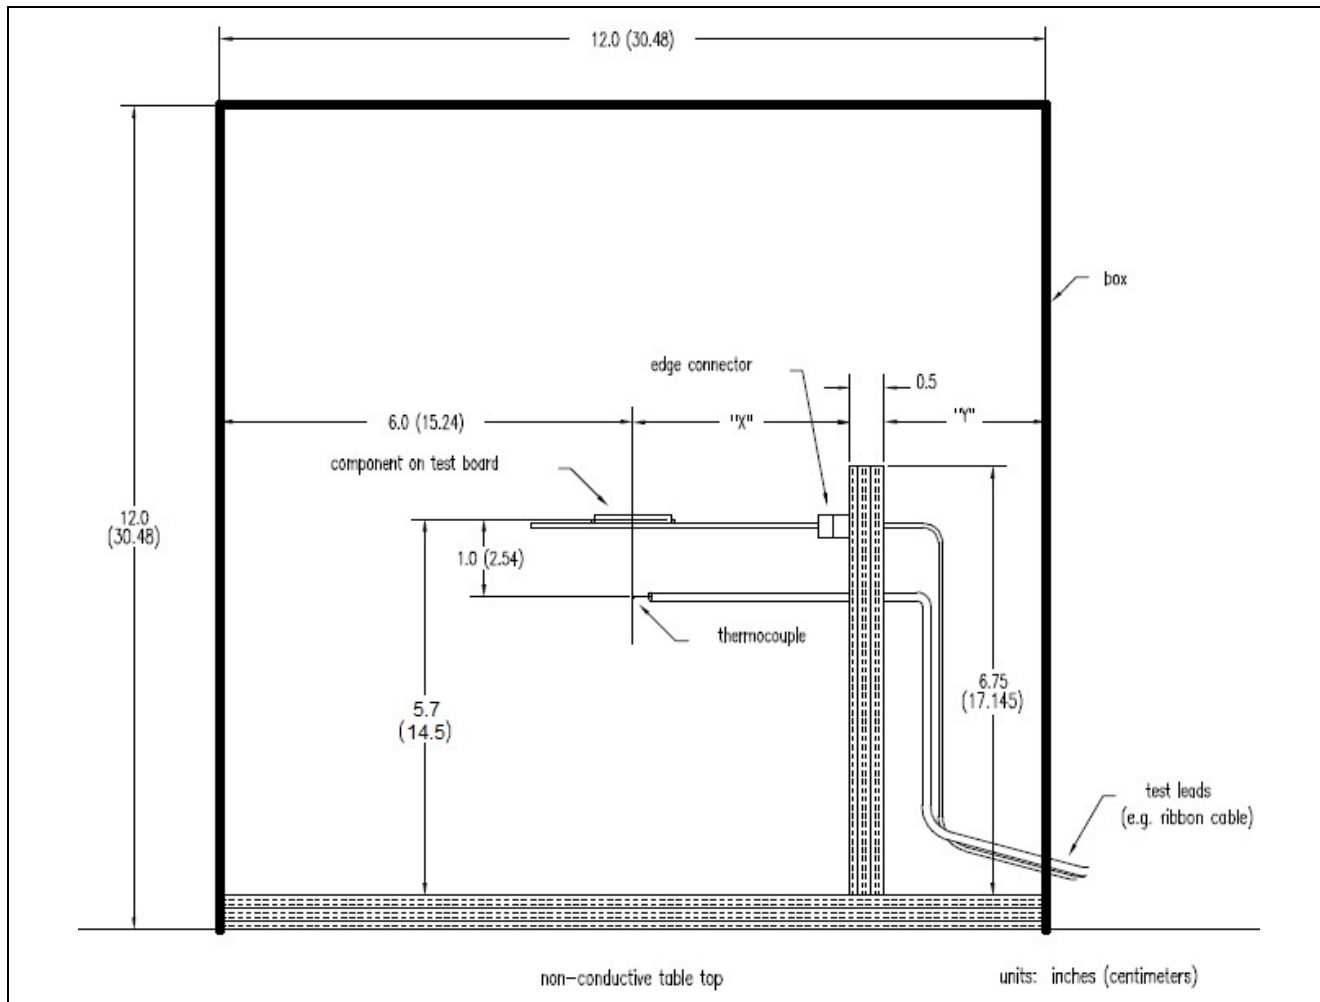

Figure 2-1  $T_a$  measurement position (from the EIA/JEDEC 51-2 Standard)
- $T_a$  (ambient temperature):  $T_a$  is the temperature at a place that is not affected by heat sources and is based on measurement methods stipulated by JEDEC (Figure 2-1 and Figure 2-2). See the EIA/JEDEC Standard 51-2 for details. Also see the product and package information that Renesas provides on its website.